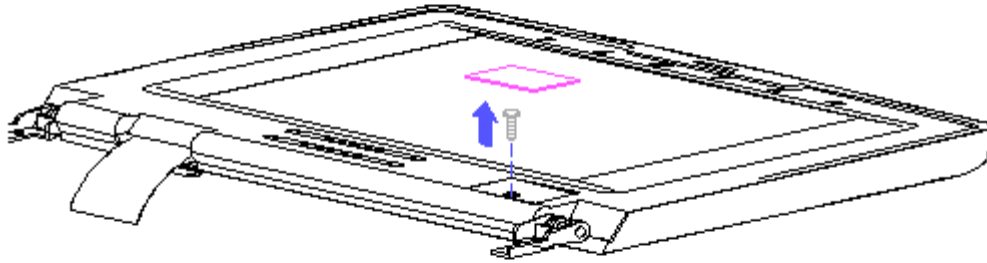

Figure 2-17. Removing the Logo Plate and Screw on the Display Panel Assembly
3. Using a Phillips screwdriver, remove the screw located at the bottom-right corner of the display panel assembly (Figure 2-17).